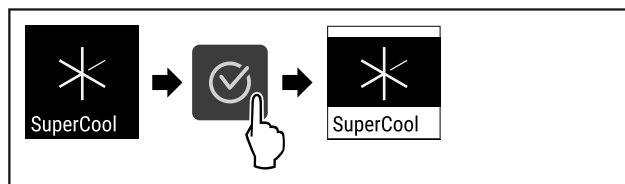

Fig. 73
- Complete steps (see Fig. 73) .